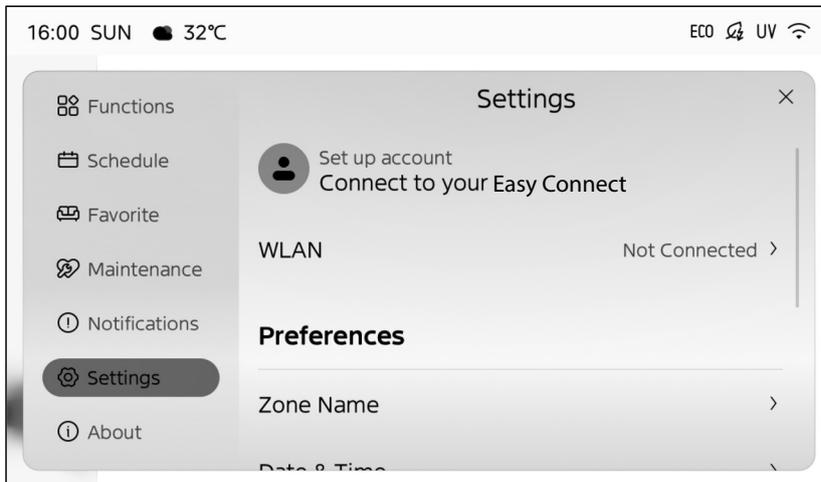

Fig 3.1
1. Click on the **[SETTINGS]** 5 times to get into system install setting mode. (Fig 3.1)